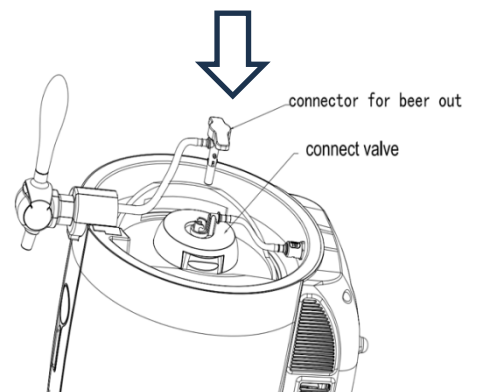

FIGURE 9
10. Insert the beer outlet quick connector assembly at the end of the beer pipe on the tap assembly facing the metal socket hole in the center of the wine valve assembly and rotate it clockwise to fit into the socket (as shown in Figure 9).